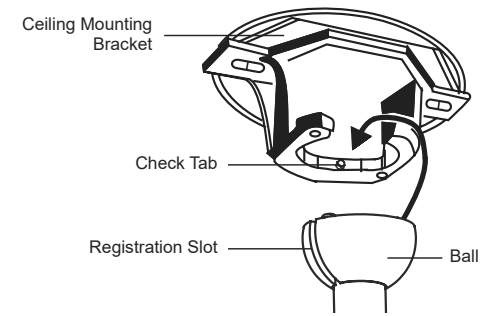

Fig. 12
Step 9. Lift the motor assembly into position and place the ball into the ceiling mounting bracket. Rotate the entire assembly until the fiCheckTabfl has dropped into the “Registration Slot” and seats firmly. **(Fig. 12)**